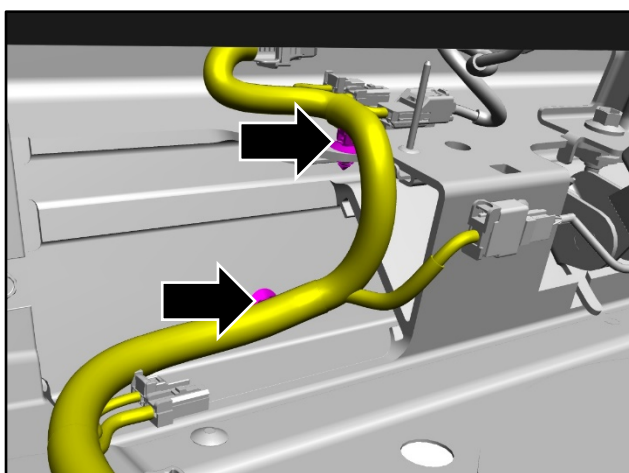

Figure 10
17. Attach the wiring harness (refer to Figure 10).